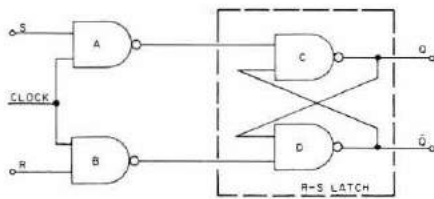

Fig. 5. Synchronous clocking of R-S latch.
If we add a clocking input to our R-S flip flop, two additional NAND gates are used. These gates insure that the latch works only when the clock pulse (1) is present. In Fig. 5 the input of C will be 0 only if the A input is 1 and the clock pulse is 1. Remember that the R-S configuration latches only on the 0 drive — and we have supplied it.